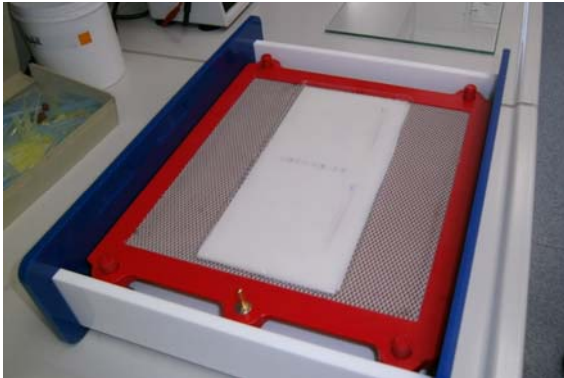

Fig. 17
- Place the stack on the blotter anode (Fig. 17)